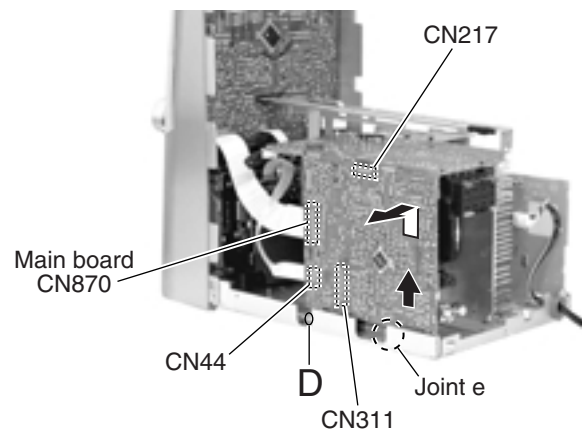

Fig.20
■ Removing the main board (See Fig.20)